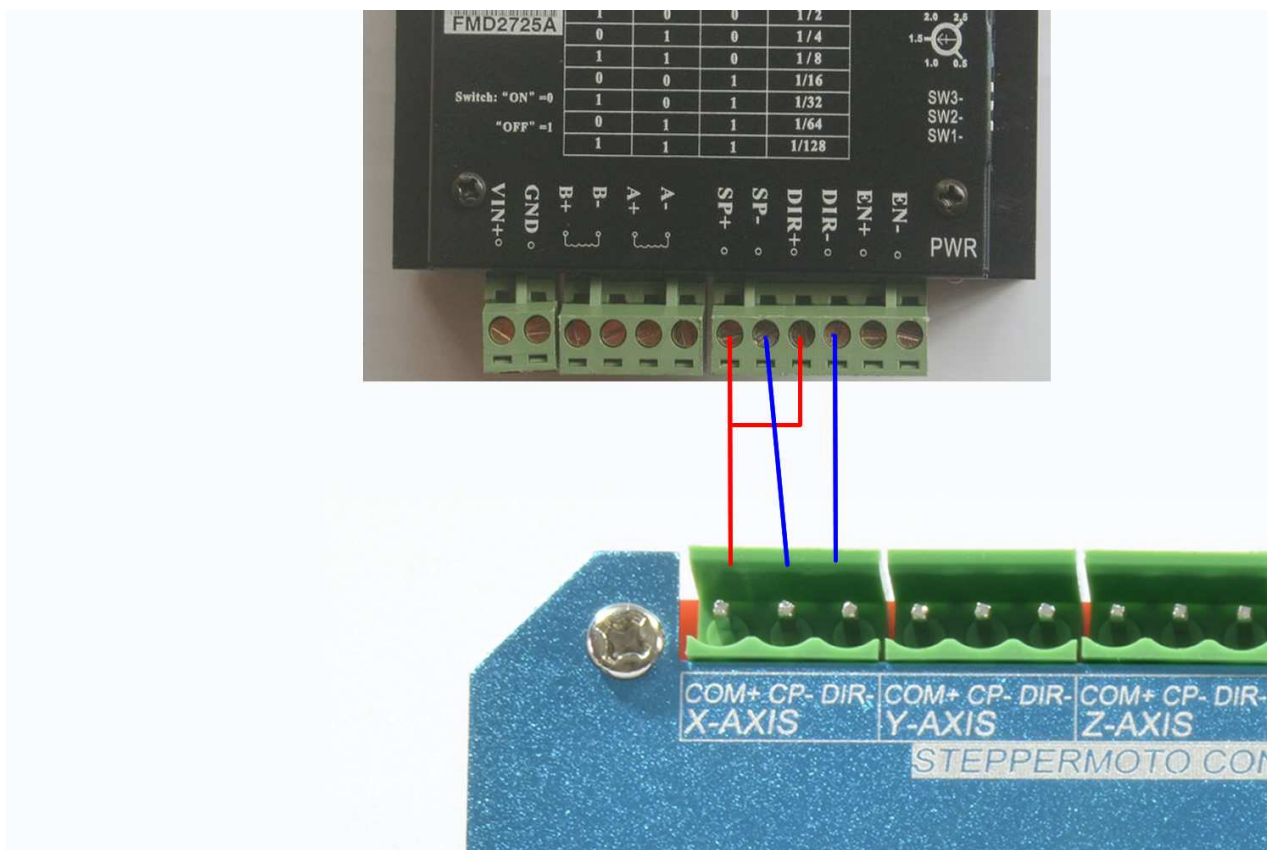

Figure2-2. Stepper motor driver connection
B) 6-axis stepper motor control signal output, axes are defined as X\Y\Z\A\B\C from left to right. Each axis is defined as COM+\CP-\DIR-. They are positive common, negative pulse, negative direction. This card is common positive connection, so CK+ and DIR+ of Stepper driver should be connected to COM+. This board does not support the common negative connection. See as Figure2-2. This card doesn't have EN signal, Most drives on sale should not connected to the EN signal.